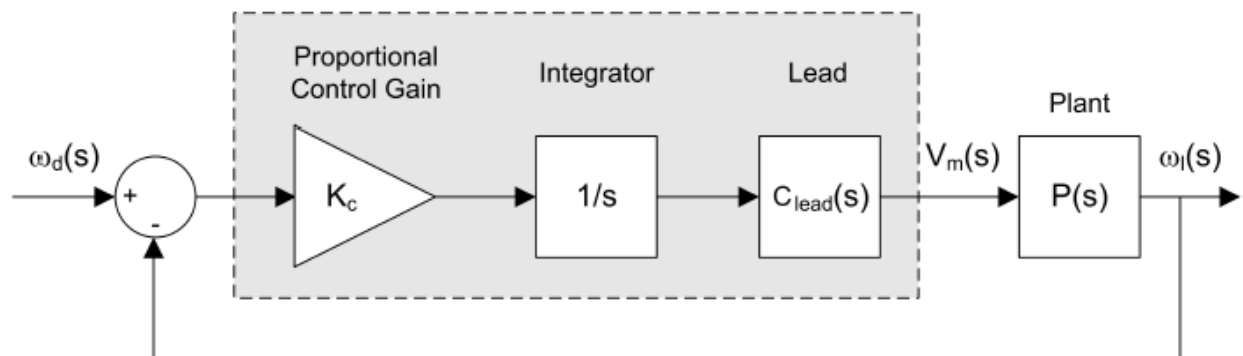
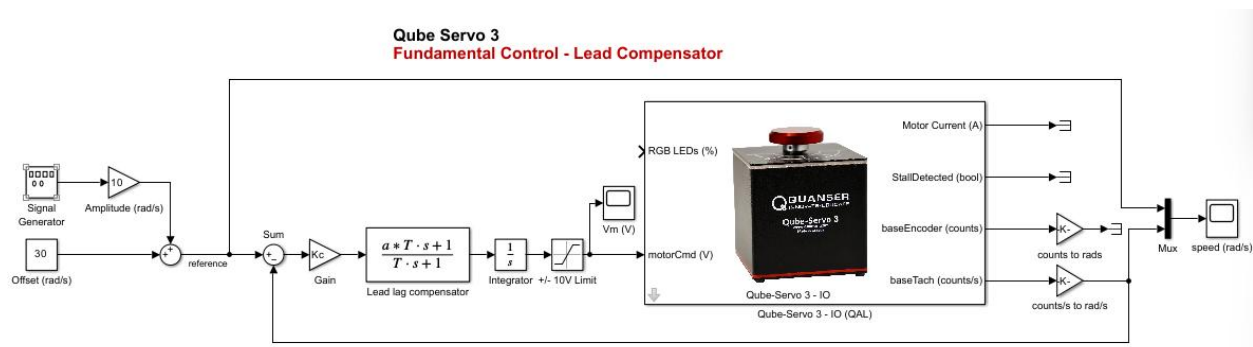

Figure 1: Lead compensator with integrator
Figure 2: Simulink implementation of lead compensator for Qube-Servo 3.
The classic lead compensator given above may not achieve zero steady-state error. To ensure we have zero steady-state error, it is necessary to include an integrator in the controller and so we will use a controller of the form of Figure 1:
The Simulink model shown in Figure 2 implements the lead compensator designed in the previous section for testing on the physical Qube-Servo 3. You will observe that Figure 2 implements the scheme shown in Figure 1.
16. Open the qs3\\_lead.slx Simulink model, design the Simulink model to be like Figure 2 by inserting and connecting the relevant blocks as in Figure 2.
20. Take a screenshot of Speed (rad/s) and  $V_m$  (V) scopes. A sample response using  $K_c = 1$  is shown in 3 below: